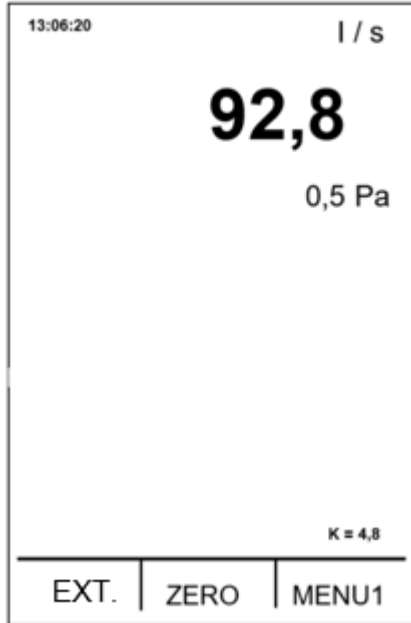
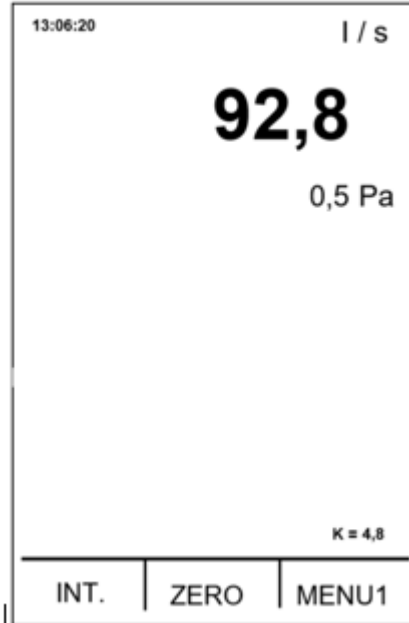

Fig. 3
Fig. 4
1. Control the leakage tester automatically with Swema 3000md and the sensor Swema SWA 10. Before connecting Swema 3000 to the leakage tester, connect the external sensor Swema SWA 10 to Swema 3000md. Select on the Swema 3000md the external probe, pressing down the left button **EXT** under the display (See fig. 3). When it is done you can read instead **INT.** (see fig. 4) If you press **INT.** the internal differential pressure is selected. This way you can zero both differential pressure before you start measuring.